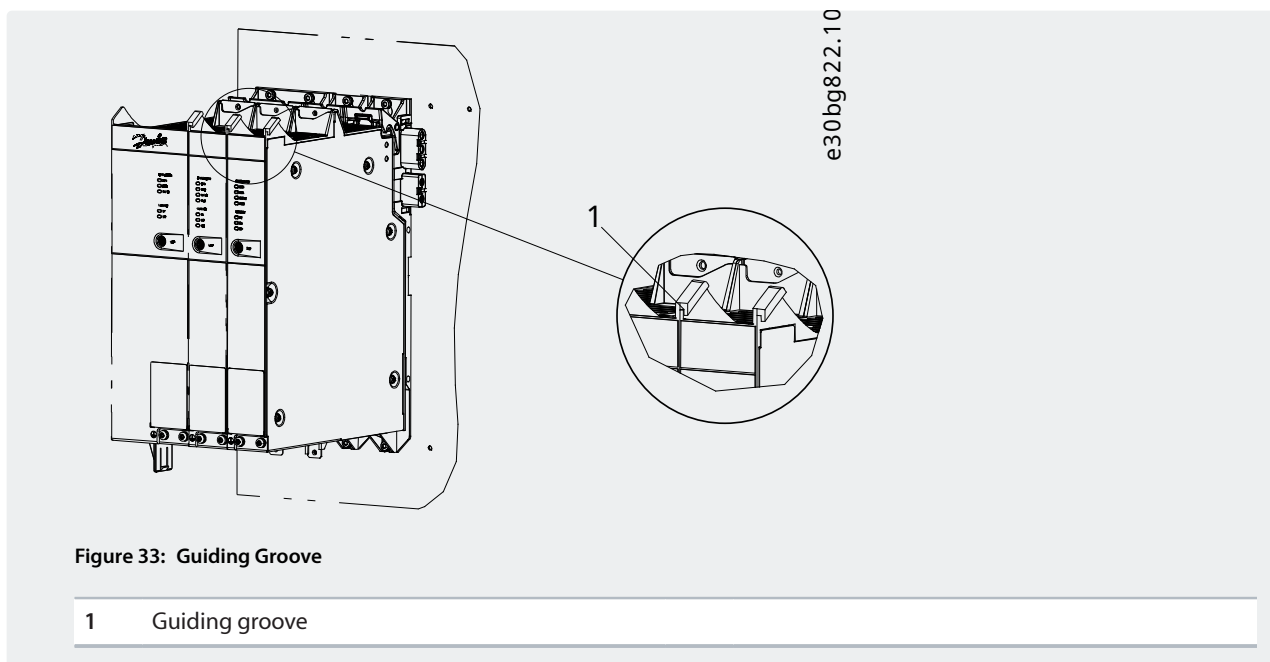

Figure 33: Guiding Groove
7. Repeat steps 4, 5, and 6 for the remaining modules, ensuring that the lip at the left side of the 2nd module is inside the guiding groove at the right side of the 1st module ([1] in Figure 33).